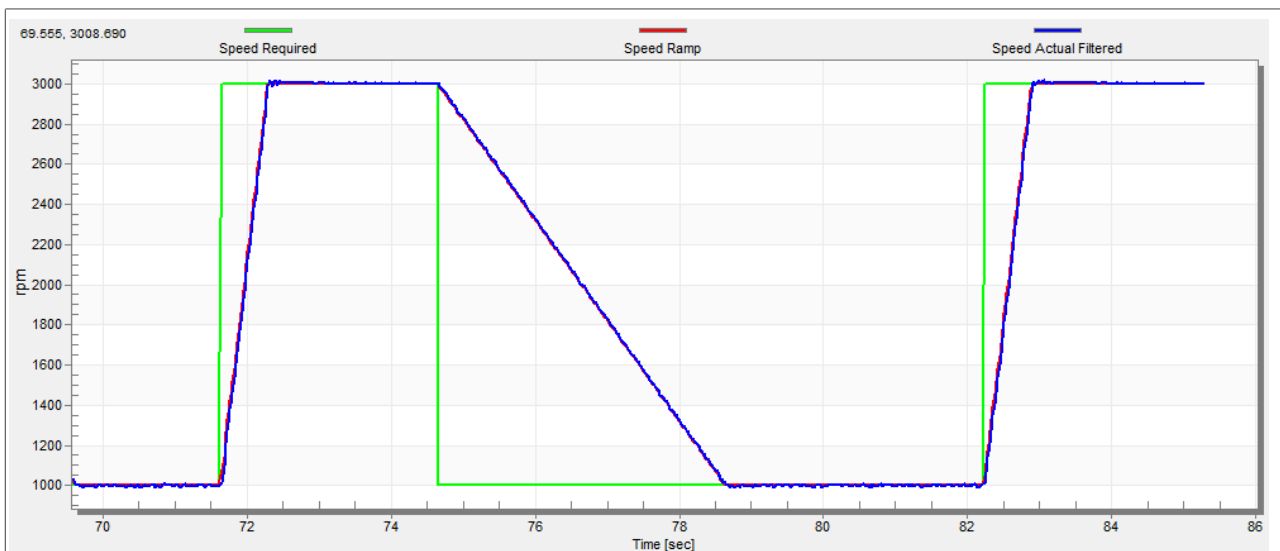

Figure 22. Speed profile
2. The increments are common for the scalar and speed control. The increment fields are in the “Speed loop” tab and accessible in both tuning modes. Clicking the “Update target” button applies the changes to the MCU. An example speed profile is shown in Figure 22. The ramp increment down is set to 500 rpm/sec and the increment up is set to 3000 rpm/sec.